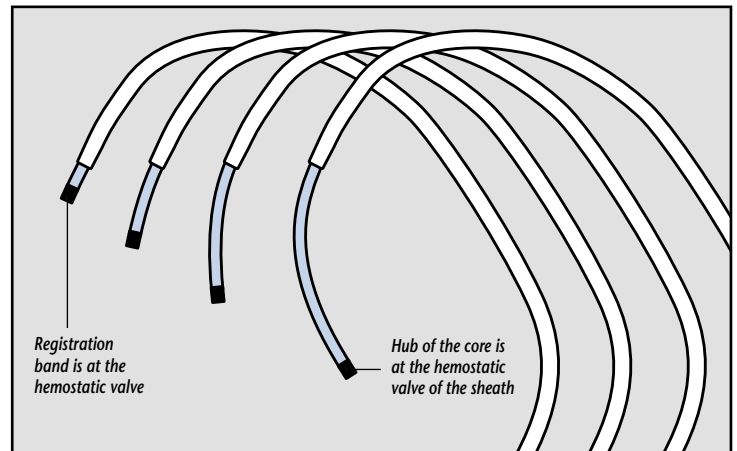

Figure 3 Variable shapes created by advancing the proximal 6.5 cm of the Braided Core into the SafeSheath CSG Worley
The effect of advancing the braided core into the SafeSheath CSG Worley beyond the black band is demonstrated in Figure 3. A continuum of shapes can be created as the proximal core is advanced into the sheath. In addition, the trajectory of the tip can be varied depending on whether the core and sheath are advanced as a unit or the sheath held in place and the core advanced. The ability to vary the trajectory of the tip may facilitate cannulation in some cases.
Step 6 Insert the braided core into the SafeSheath CSG Worley until the leading edge of the black registration band is even with the hemostatic valve (Figure 6A). The SafeSheath CSG Worley with radio opaque soft tipped Braided Core extending 3mm beyond the sheath will be resting in the RA (Figure 6B). The braided core can be used to change the shape at the tip of the sheath and facilitate CS cannulation (Figure 3).